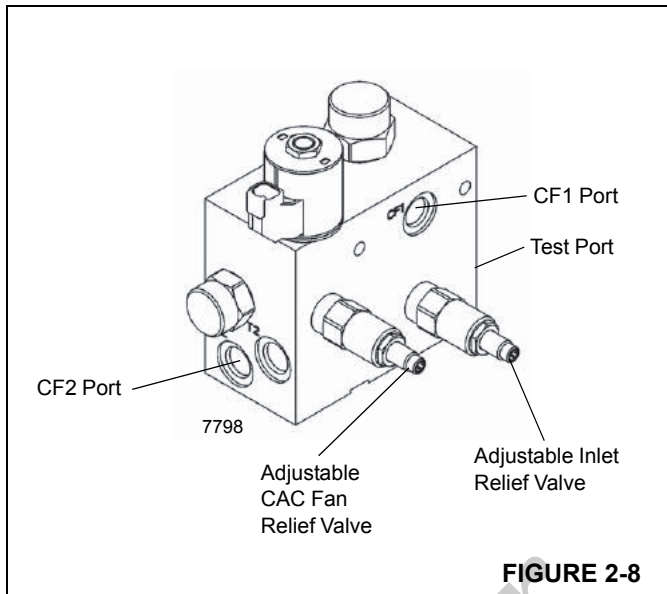

FIGURE 2-8
1. With engine off, disconnect hose at port "CF1" at the brake charge/CAC fan motor supply valve (Figure 2-8); cap and plug all openings.
1. With engine off, disconnect hose at port "CF2" at the brake charge/CAC fan motor supply valve (Figure 2-8); cap and plug all openings.